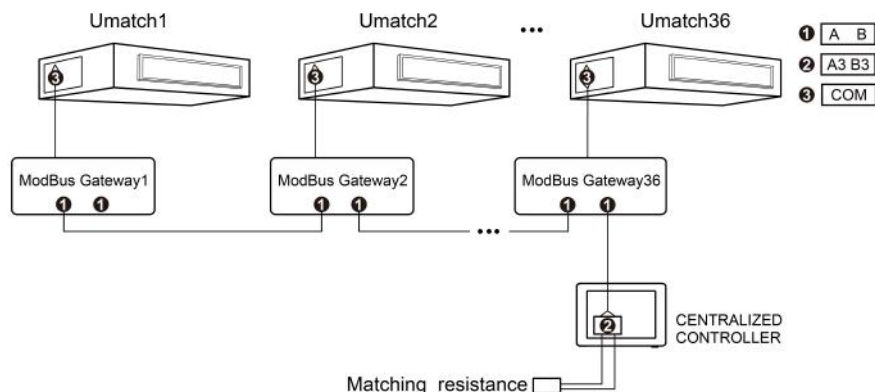

Fig. 3.8 Centralized Controller Connected with U-match Unit
- (3) If the centralized controller is to be connected with U-match units which have 6-core neilsbed, connect according to fig.3.8. The controller must connect with terminal gateway. Connect the centralized controller's A3 and B3 ports to A and B port on the Modbus Gateway. A matching resistance needs to be added with the communication cords at the A3 and B3 ports. The modbus gateway connecte to 6-core neilsbed of U-match mainboard, need to be purchased separately. Each U-match unit need one Modbus gateway.
- (4) The indoor unit address must be set within the range from 1 to 36, and different from each other. Identicle addresses will lead to communication failure. Below is the address setting method: